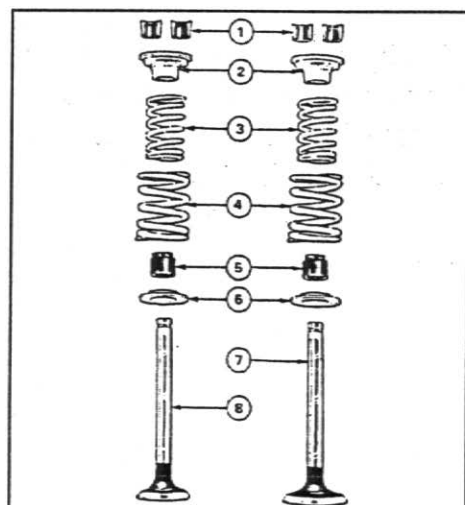

Fig.12
3. Remova os assentos das molas, as molas, as arruelas das molas, os vedadores e as válvulas, fig.12.